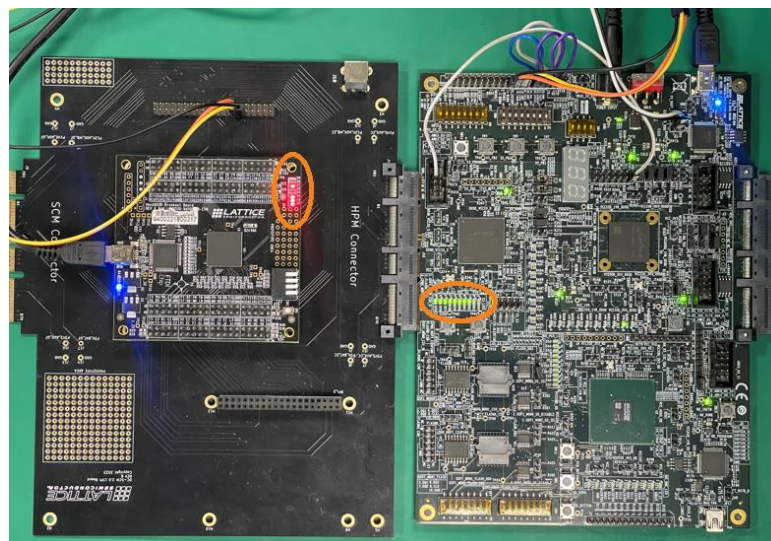

Figure 6.2. LED Indicator for LTPI Connection
2. Upon power ON, LED pattern should be observed on both sides of the demonstration boards (Figure 6.2):